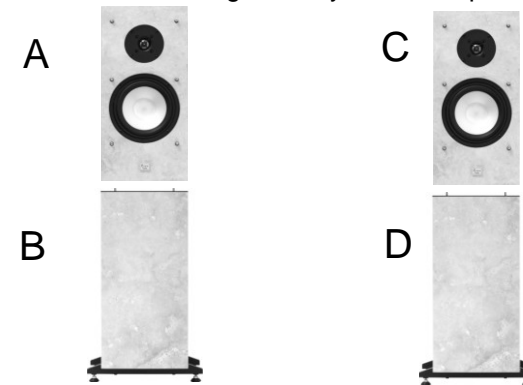

Fig. 1
3. Referring to *Fig. 1* below, carefully remove all loose components and parts from each box as designated by the corresponding letter: